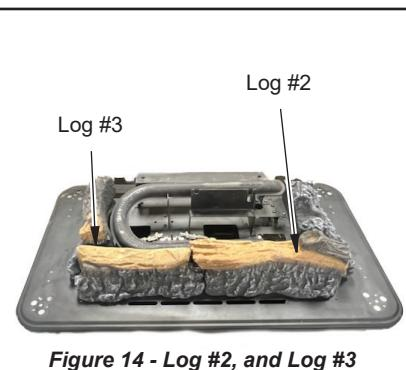

Figure 14 - Log #2, and Log #3
3. Place Log #2 and Log #3 as shown in Figures 14. Push them into contact with the front of Log #1 and Log #4. There are recessed "holes" in the bottom of the log that will set on the screw heads in tray.